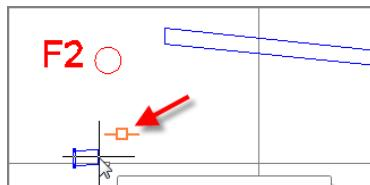

FIGURE 15.10 A glyph indicating the proper connection of a pipe to a fitting
5. In the upper-right viewport, place your cursor near the right end of the short pipe segment located just below the red circle. When the glyph appears, as shown in Figure 15.10, click the pipe. Click Counterclockwise on the command line.
9. Click Add Bend; then click the end of the newly created pipe, making sure the proper glyph is displayed, as previously shown in Figure 15.10. Click Clockwise on the command line to invoke the Clockwise option. Another 45° bend is created.